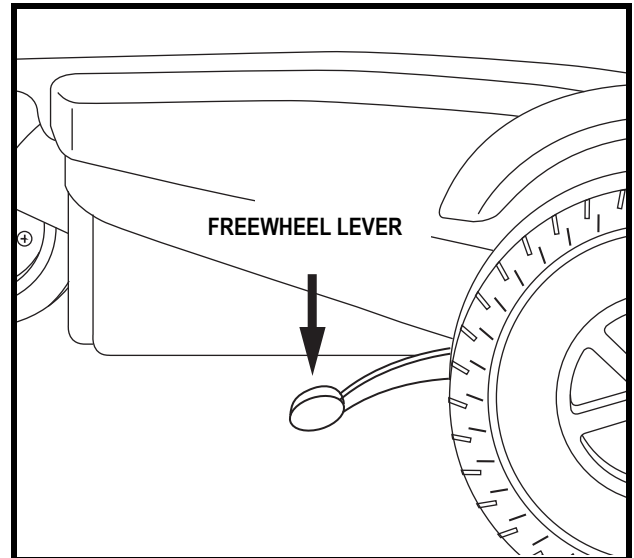

Figure 9. Freewheel Mode (Drive Disengaged)
3. Push both levers downward to disengage the drive motors (freewheel mode). See figure 9.